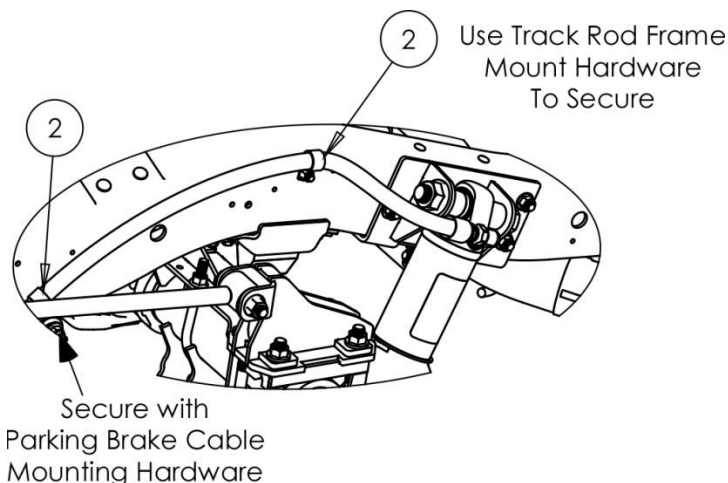

Figure 29. Drive side hose routing.
12. Secure hose with clamps as shown in Figure 29.